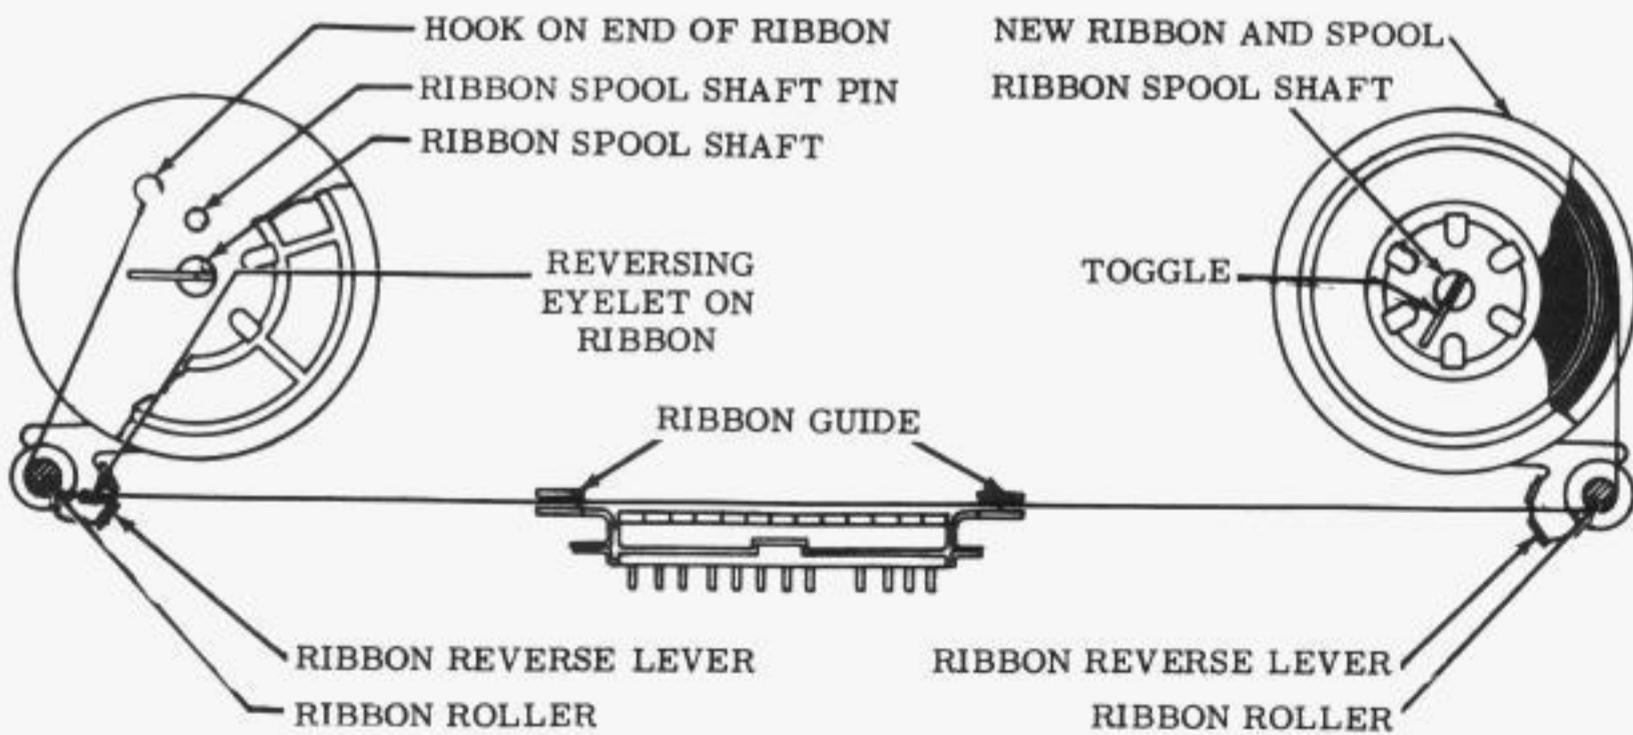

Figure 6 - Path of Ribbon
2.40 To install ribbon, remove both spools from the ribbon spool shafts. Engage the hook on the end of the new ribbon in the hub of the empty spool. Wind a few turns of the ribbon onto the empty spool in the same direction that it comes off the full spool. Make sure that the reversing eyelet has been wound up on the empty spool. Place the spools on the ribbon spool shafts so that the ribbon on the right spool comes off the right side and the ribbon on the left spool comes off the left side without twisting. Thread the ribbon around the rollers and through the reverse lever slots as shown in Figure 6.
rollers and through the reverse lever slots (Figure 6).